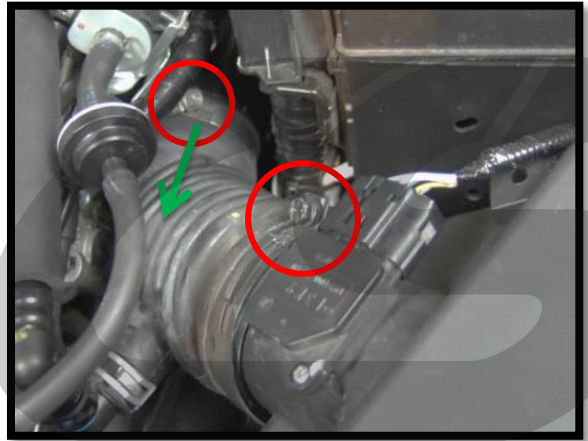

Figure 3a
a) Loosen the two (2) 10mm hose clamps on the factory rubber intake elbow (red circles in Figure 3a).
b) Pull the OEM intake elbow off the OEM turbo inlet pipe. Pull in direction shown with green arrow in Figure 3a.